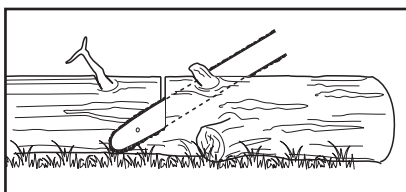

Fig. 30
1. Follow the simple directions for easy cutting. When the log is supported along its entire length (Fig. 30), it is cut from the top (overbuck).